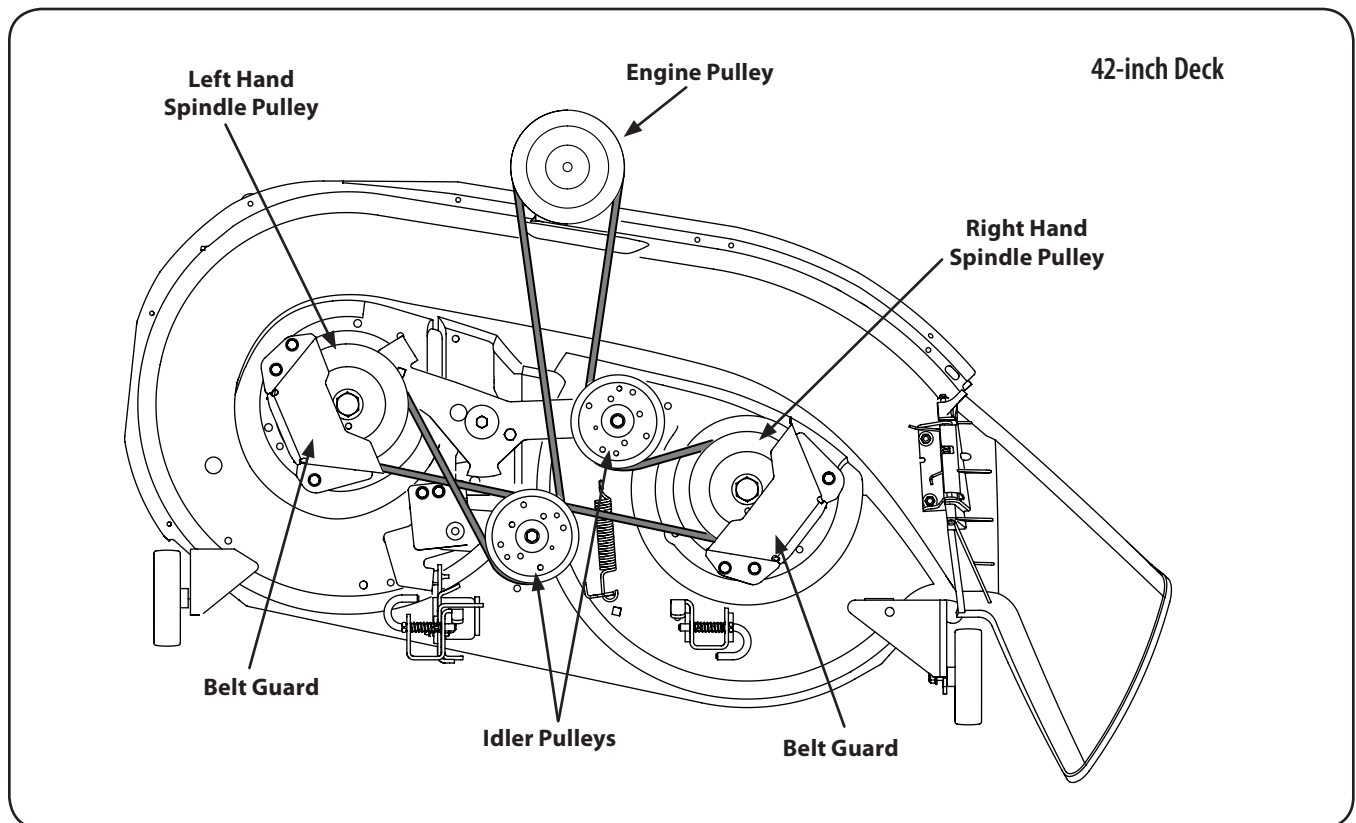

Figure 7-6
6. Route the new belt as shown in Fig. 7-6, 7-7 or 7-8 depending on your tractor's deck, and retighten the deck idler pulleys.